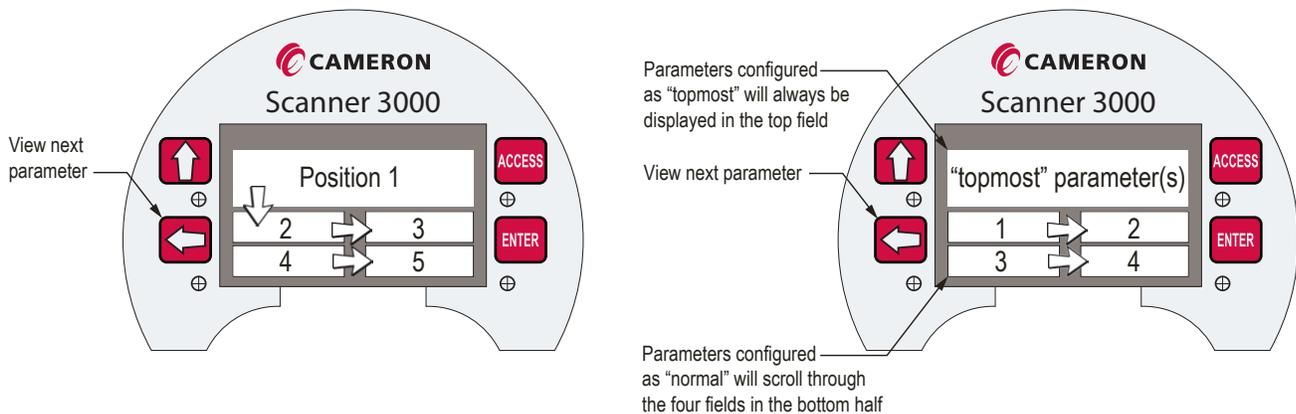

Figure 5.2—Arrangement of parameters in LCD display
- **Prioritization of Parameters.** You can force selected “high priority” parameters to be displayed only in the top field of the display by assigning a priority status to these parameters (Figure 5.2).
Figure 5.2, page 77 shows the standard order of progression as parameters cycle through five display fields on the LCD. You may choose to restrict the large topmost display field for displaying high-priority parameters that require constant monitoring. When one or more parameters are configured as “topmost” priority in the web interface, the display effectively functions as two parallel scrolling sequences. The large “topmost” field will scroll the high priority parameters and the bottom four fields will scroll the other normal priority parameters. If only one parameter is configured as “topmost” priority, it will remain in constant view in the top display.